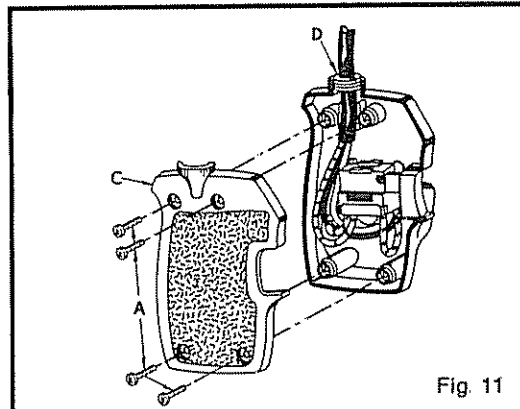

Fig. 11
2. Remove screws (A) and handle cover (C). See Figure 11.
3. NOTE THE LOCATIONS OF GROMMET (D) AND ALL WIRING IN THE HANDLE. ALSO NOTE HOW EACH LEAD IS CONNECTED TO THE SWITCH. Connections and wiring position must be identical when installing new switch. See Figure 11.